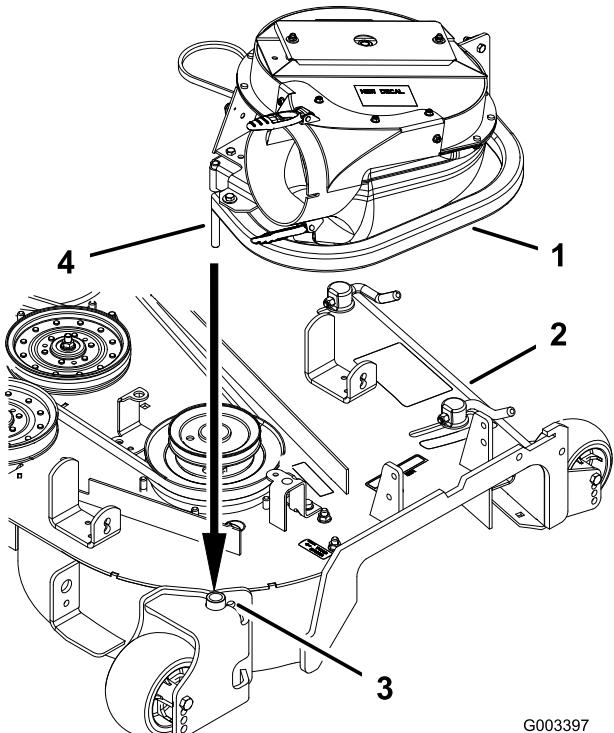
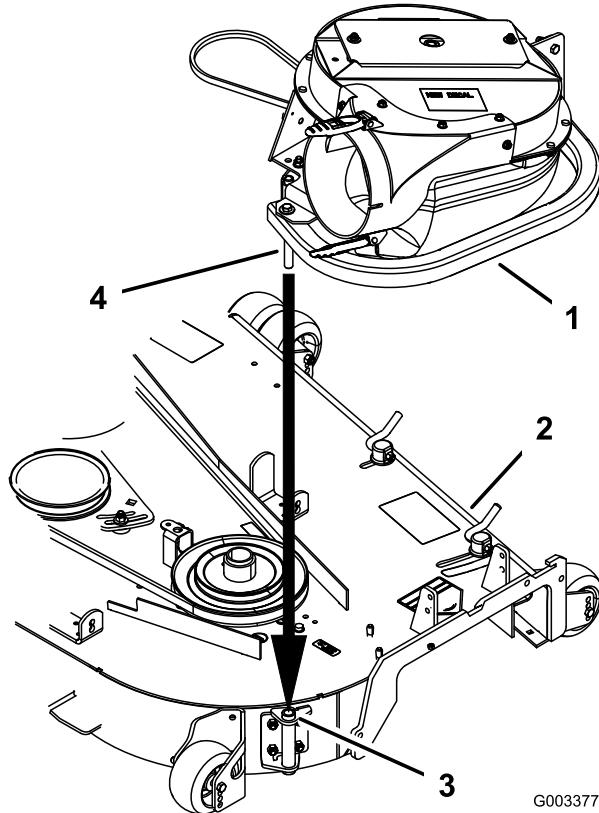

Figure 14
Figure 15
2. Slide the blower assembly peg into the pivot hole. For 60 inch mowers refer to Figure 14 and for 72 inch mowers refer to Figure 15.